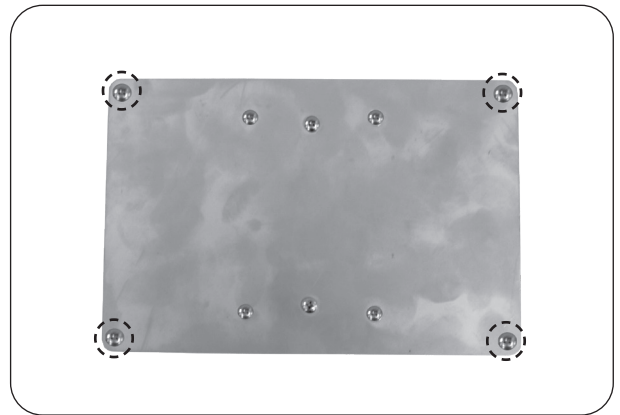

Fig. 50-1 Remove 4 large screws
2. Using a phillips screwdriver, remove the 4 large screws found on the cover of the power supply box (see Fig. 50-1).